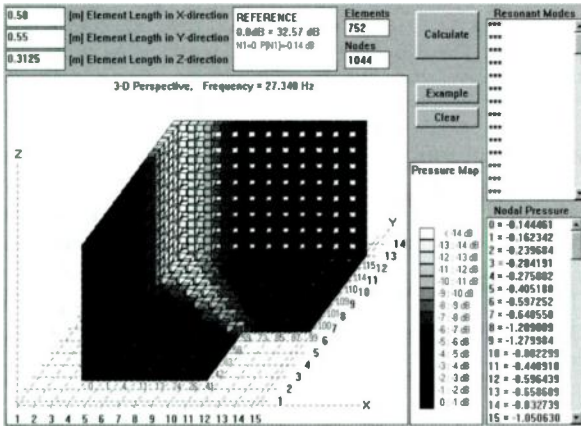

FIGURE 16: The source radiating at the first room mode.
*Figure 16* shows the source radiating at the first room mode. The pattern is familiar, showing a characteristic pressure increase at the source due to the resonant effect developed in the room. The pressure null, or cancellation of sound, is marked half-way to the opposite wall. The total pressure increase at the source includes re-inforcement attributable to the corner location, as well as an additional increase due to the sharp resonant effect of the volume of air in the room, resulting in the reference level of 32dB.
Locating the loudspeaker at node 51 (*Figs. 17 and 18*), will not fully energize the first room mode, but it will energize the second, and this results in a 12dB difference in maximum sound pressure in favor of the second mode (54.0Hz). Also, moving the speaker from a corner (*Fig. 16*) to a null location (*Fig. 17*) reduces the relative SPL from 32dB to 7dB—a massive 25dB decrease! You may not desire this additional sound coloration if your goal is to set up your speakers for maximum sound pressure at the lowest frequencies.